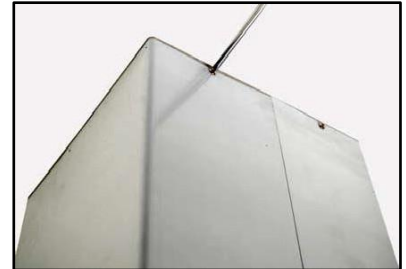

Figure 4
22. Fasten the inner duct cover in place with 4 screws (provided). Refer to Figure 4.